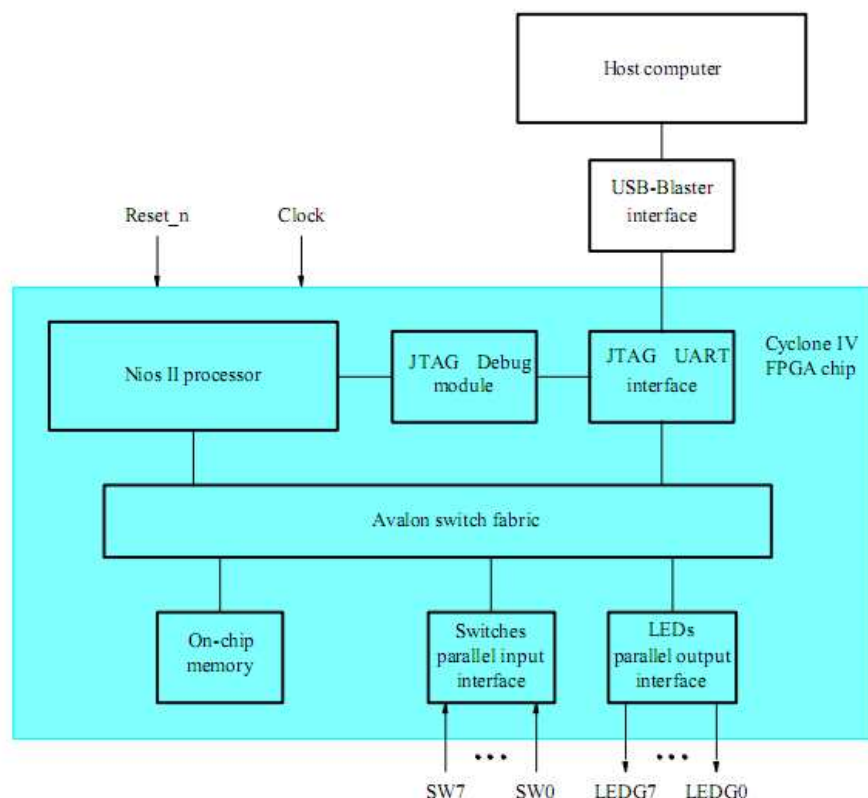
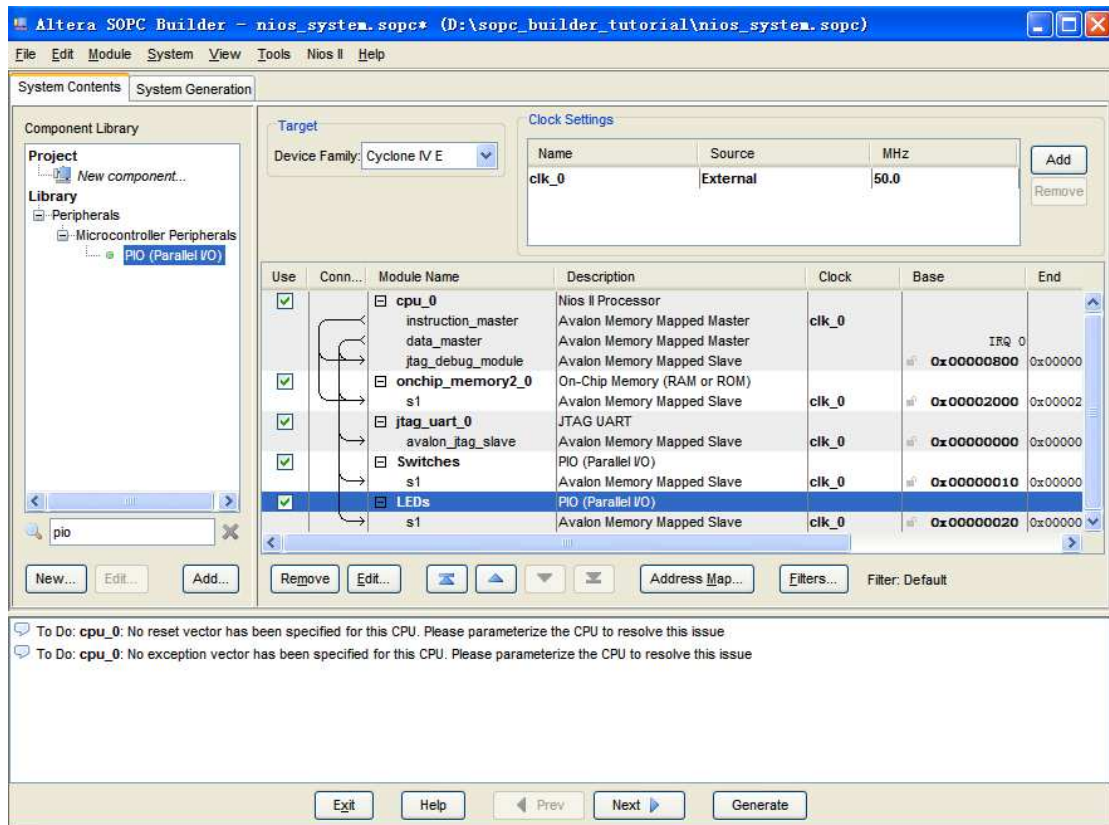

Figure 2.A simple example of a Nios II system.
Figure 13.The complete system.
Our example system is given in Figure 2. The system realizes a trivial task. Eight toggle switches on the DE2-115 board, SW_{7-0} , are used to turn on or off the eight green LEDs, $LEDG_{7-0}$. The switches are connected to the Nios II system by means of a parallel I/O interface configured to act as an input port. The LEDs are driven by the signals from another parallel I/O interface configured to act as an output port. To achieve the desired operation, the eight-bit pattern corresponding to the state of the switches has to be sent to the output port to activate the LEDs. This will be done by having the Nios II processor execute a program stored in the on-chip memory. Continuous operation is required, such that as the switches are toggled the lights change accordingly.
We will use the SOPC Builder to design the hardware depicted in Figure 2. Next, we will assign the Cyclone IV pins to realize the connections between the parallel interfaces and the switches and LEDs which act as I/O devices. Then, we will configure the FPGA to implement the designed system. Finally, we will use the software tool called the Nios II Debug Client to assemble, download and execute a Nios II program that performs the desired task.
The SOPC Builder is a tool used in conjunction with the Quartus II CAD software. It allows the user to easily create a system based on the Nios II processor, by simply selecting the desired functional units and specifying their parameters. To implement the system in Figure 2, we have to instantiate the following functional units:
10. The complete system is depicted in Figure 13. Note that the SOPC Builder automatically chooses names for the various components. The names are not necessarily descriptive enough to be easily associated with the target design, but they can be changed. In Figure 2, we use the names Switches and LEDs for the parallel input and output interfaces, respectively. These names can be used in the implemented system. Right-click on the pio_0 name and then select Rename. Change the name to Switches. Similarly, change pio_1 to LEDs.